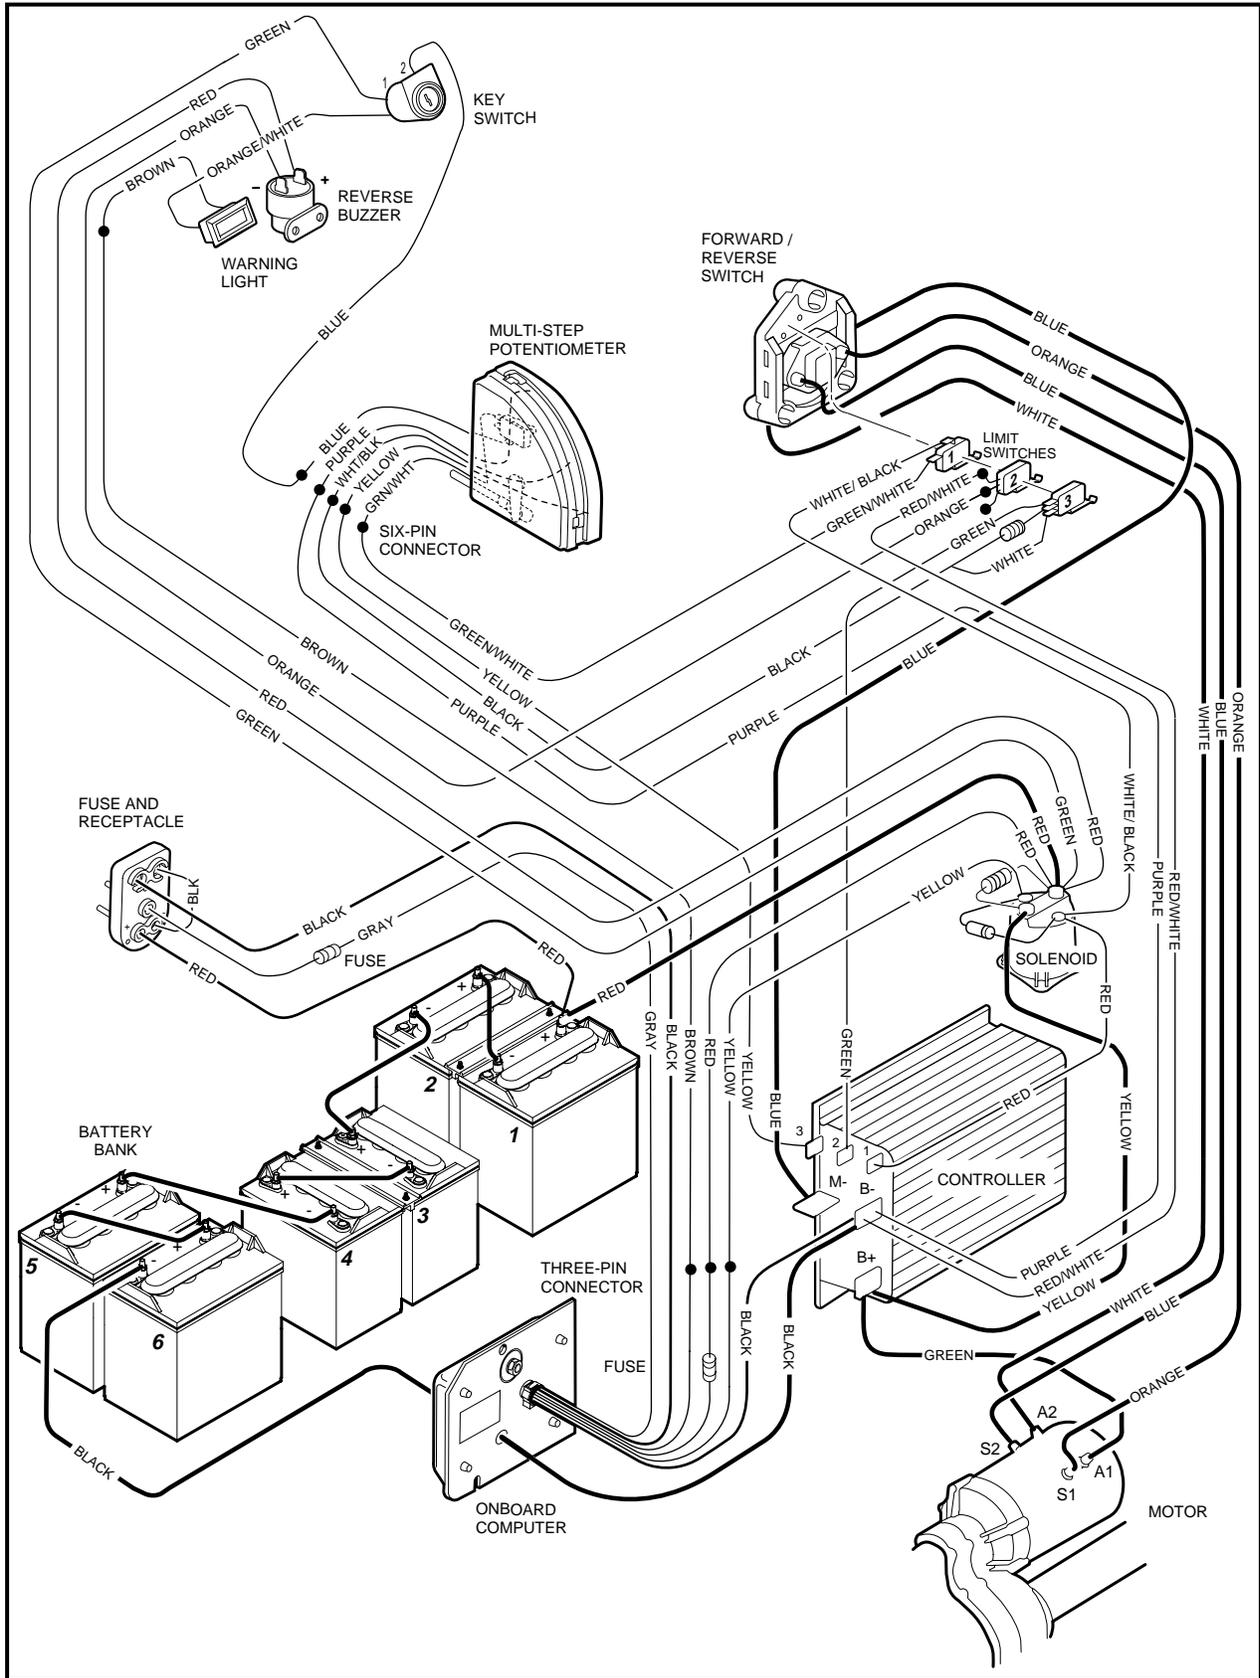

Figure 11-2 Wiring Diagram - DS Electric Vehicle
2) Disconnected or improperly connected wires.	Figures 11-2 through 11-6, Pages 11-3 through 11-7
2) Improperly wired.	Figures 11-2 through 11-6, Pages 11-3 through 11-7